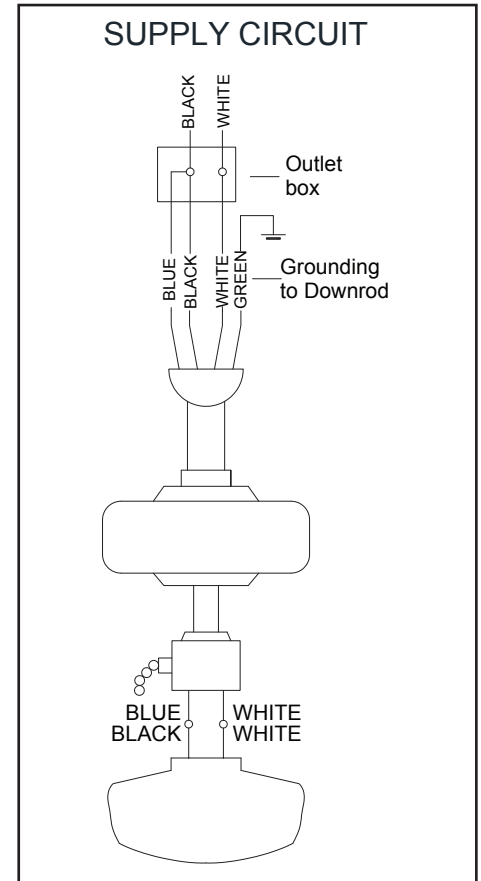

Figure 10
Follow the steps below to connect the fan to your household wiring. Use the wire connecting nuts supplied with your fan and supplied with remote control. Secure the connectors with electrical tape. Make sure there are no loose strands or connections. (Figure 10)
1. Connect the ground conductor of the 120v supply (this may be a bare wire or a wire with green colored insulation) to the green ground lead(s) of the fan. (Figure 10)
2. Connect the neutral fan (white) wire to the white neutral household wire. (Figure 10)
3. Connect the fan supply (black and blue) wire to the black household supply wire. (Figure 10)